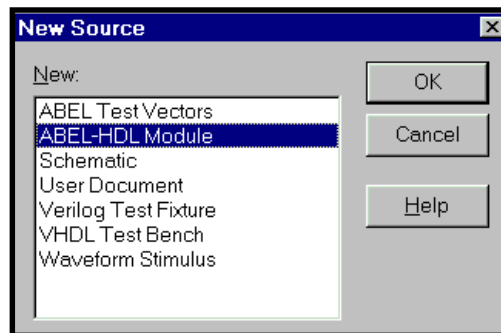

Figure 3-5. New Source Dialog Box
- Choose **Source** ⇒ **New** from the menu bar. The New Source dialog box appears (Figure 3-5).